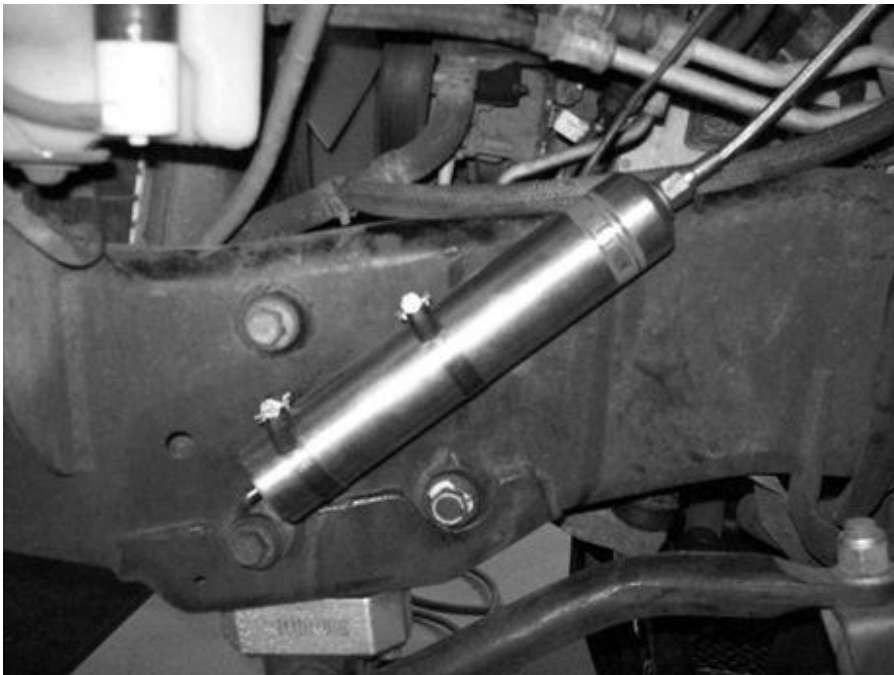

Figure 4
- L. Secure the reservoir to the bracket using the hose clamps. The hose fittings are designed to swivel to allow the reservoir and hose to be more easily positioned. Figure 4 depicts the reservoir installed.